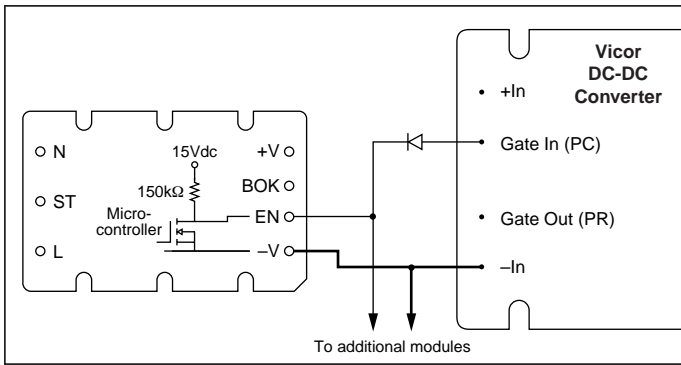

Figure 9—Enable (EN) function; See Fig. 8 for details
Enable (EN) Pin. (See Fig. 9). The Enable pin must be connected to the Gate-In or PC pin of all converter modules to disable the converters during power-up. Otherwise, the converters would attempt to start while the holdup capacitors were being charged through an unbypassed thermistor, preventing the bus voltage from reaching the thermistor bypass threshold thus disabling the power supply. The Enable output (the drain of an N channel MOSFET) is internally pulled up to 15V through a 150kΩ resistor.